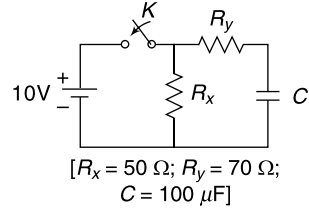

Fig. 2.48 Circuit of Ex. 2.33
2.33 In Fig. 2.48 the switch K is closed. Find the time when the current from the battery reaches to 500 mA.